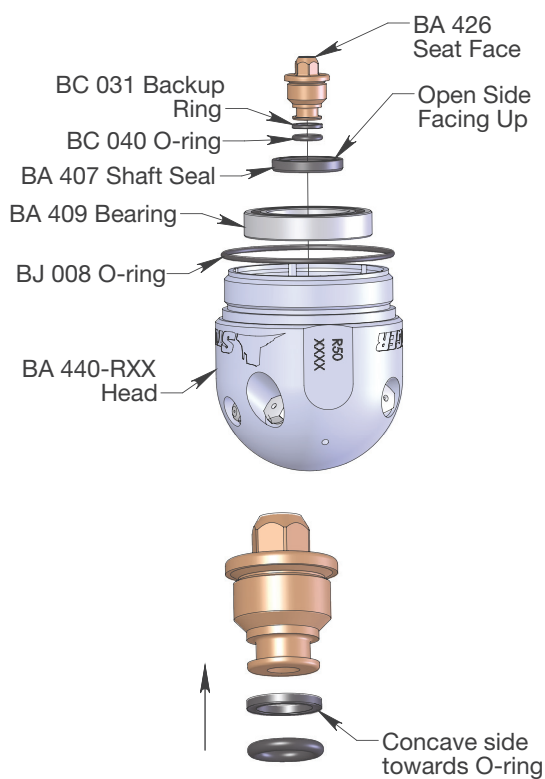

Figure 10: Seat Face and O-rings Detail
4. Install Backup Ring (BC 031) and O-ring (BC 040) into groove on the Seat Face (BA 426) in orientation shown in Figure 10. **Grease around both rings.** Apply anti-sieze on threads prior to installation. Thread the Seat Face into Head and tighten to approximately 10 ft*lbs.